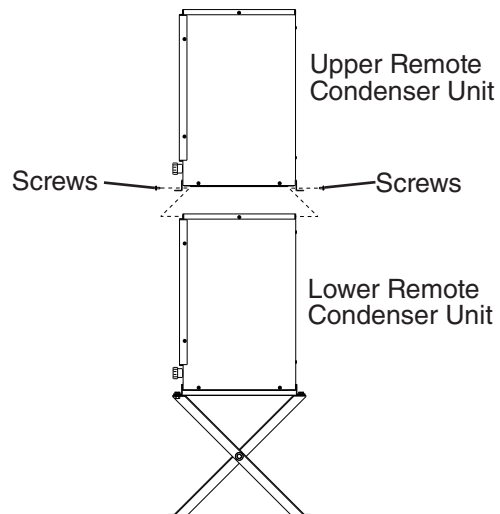

Fig. 9
- 2) Place the upper remote condenser unit on top of the lower remote condenser unit. See Fig. 9.